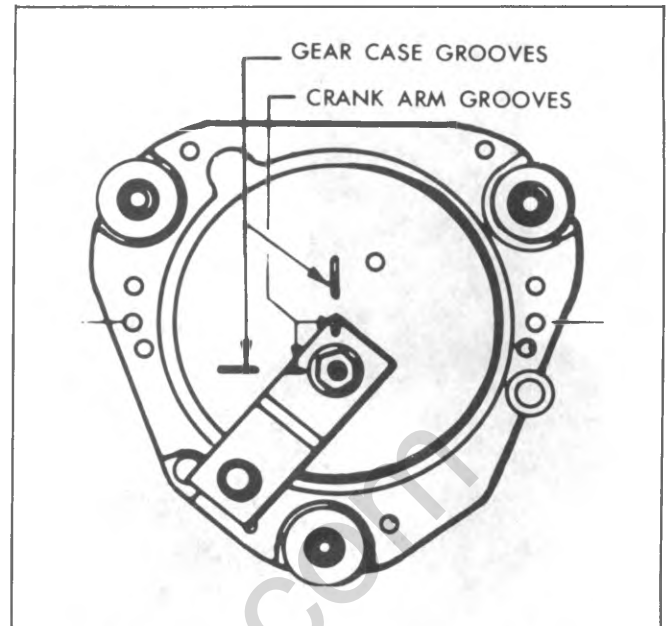

Fig. 8-28--Wiper Motor Crank Arm in Park Position
2. Place wiper in park position and install crank arm on output shaft, rotate crank so alignment marks line up with those on cover (fig. 8-28).